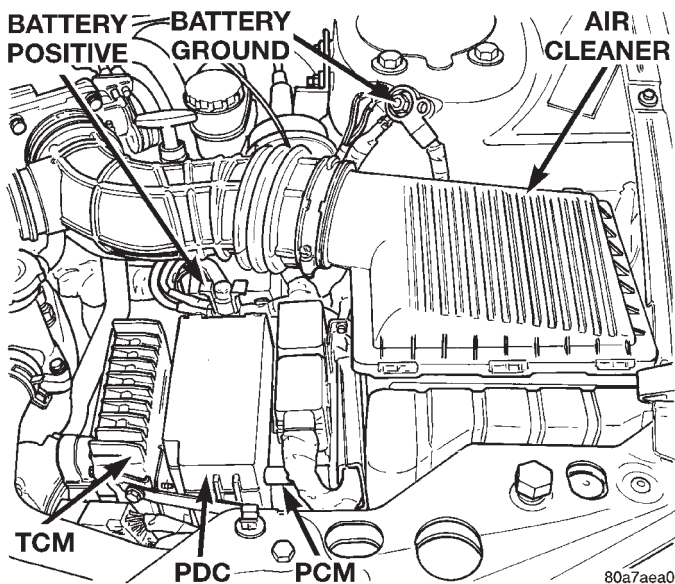

Fig. 33 Remote Battery Terminals and PCM Connectors
(1) Inspect remote battery cable connections. Be sure they are clean and tight. Clean corroded terminals (Fig. 33).
(2) Verify that the PCM's 2 40-way connectors are fully inserted into their sockets on the PCM (Fig. 33).
are fully seated in the PDC (Fig. 33). A label on the underside of the PDC cover shows the locations of each relay and fuse.